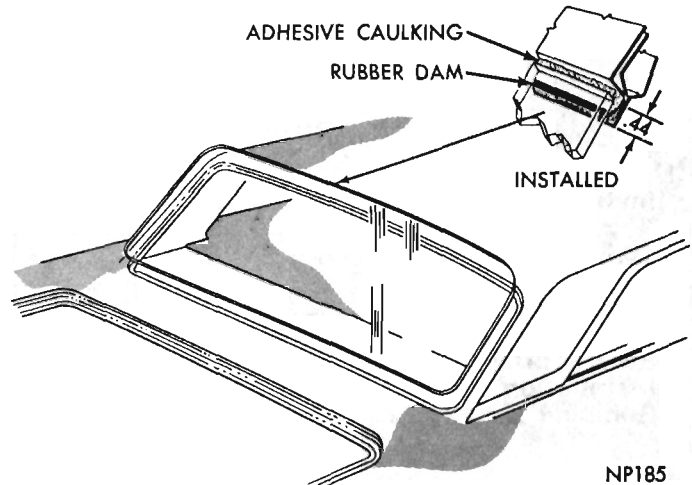

Fig. 4 Window Installation
(13) With an assistant and using suction cups on glass **align tape on glass with tape on body, make certain glass will set on rubber spacers and install glass in opening (Fig. 4).**
(14) Press glass **lightly** to adhere adhesive to fence flange.
(15) Run a flat wooden or fiber tool around entire edge of glass to force adhesive into opening between edge of glass and reveal.
(16) Clean interior surface of glass. **Hand pressure to clean the glass interior surface after installing glass and before adhesive has set up may result in glass being pushed out of opening.**
(18) Install garnish and exterior mouldings, clean glass exterior surface and remove protective covers.